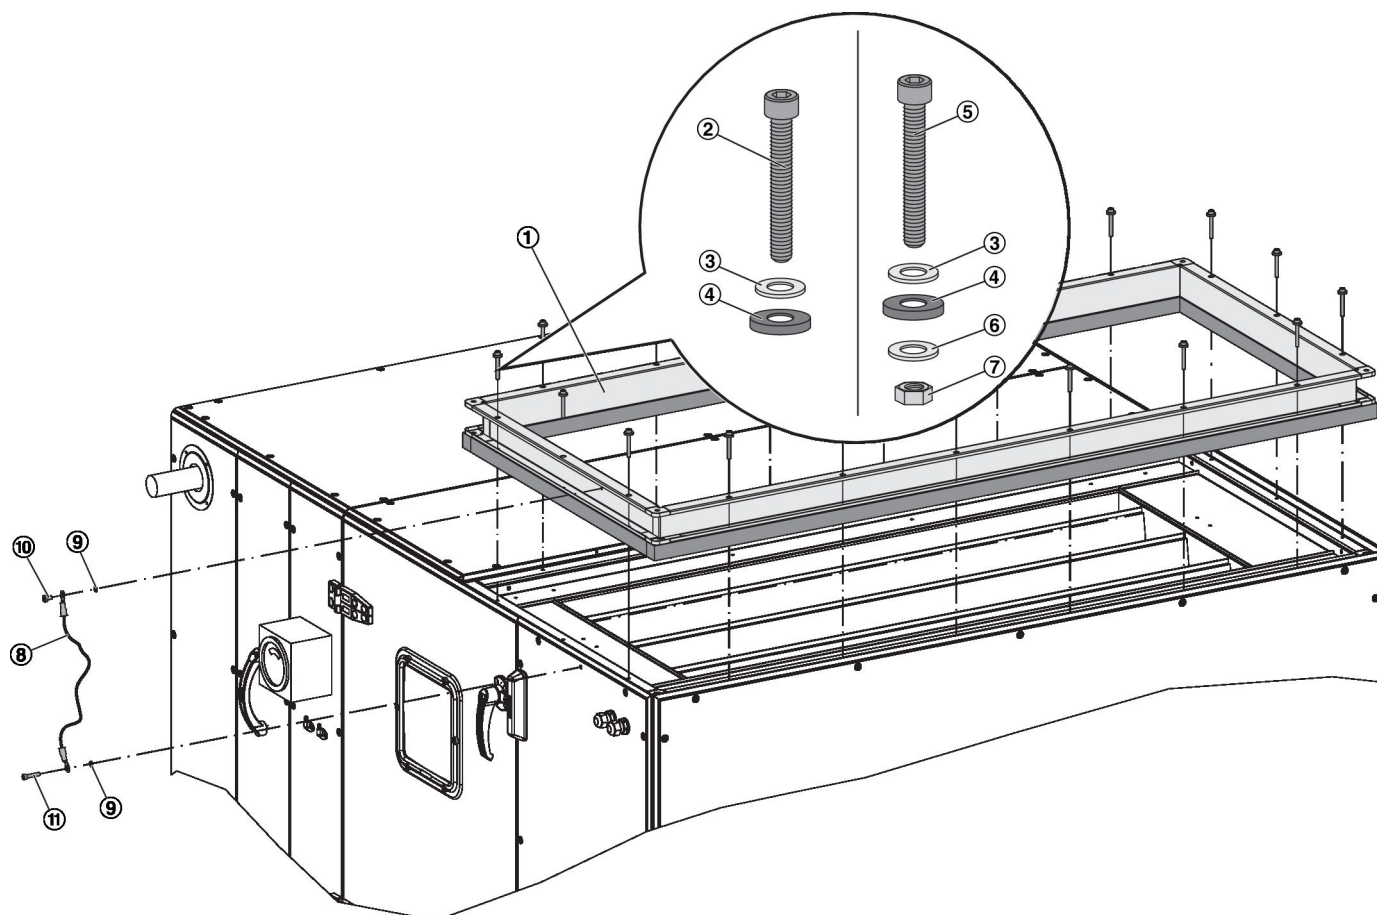

Fig. 17: Installing the noise insulating connector
⑩	Pan head screw M6 × 12	M852AC6
⑪	Socket cap head screw M6 × 30	M852AC4
- ▶ Place the noise insulating connector ( Fig. 17 /1) on the air handling unit with the perimeter seal facing down; fix it with thread forming screws ( Fig. 17 /2), rubber seals ( Fig. 17 /4) and washers ( Fig. 17 /3).
*If the noise insulating connector is to be attached to a multileaf damper, fix it with the supplied socket cap head screws ( Fig. 17 /5), rubber seals ( Fig. 17 /4), washers ( Fig. 17 /3 and 6) and nuts ( Fig. 17 /7).*
- ▶ Fix one eye of the ground cable ( Fig. 17 /8) with a pan head screw M6 × 12 ( Fig. 17 /10) and a serrated lock washer ( Fig. 17 /9) to the noise insulating connector.
- ▶ Fix the other eye of the ground cable with a socket cap head screw M6 × 30 ( Fig. 17 /11) and a serrated lock washer through the panel sheet to the tubular frame of the air handling unit.